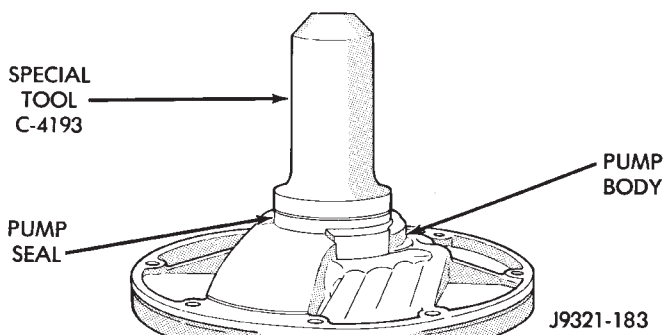

Fig. 148 Pump Oil Seal Installation
(12) Install new oil seal in pump with Special Tool C-4193 and Tool Handle C-4171 (Fig. 148). Be sure seal lip faces inward.
(13) Install new seal ring around pump housing. Be sure seal is properly seated in groove.
(14) Lubricate lip of pump oil seal and O-ring seal with transmission fluid.